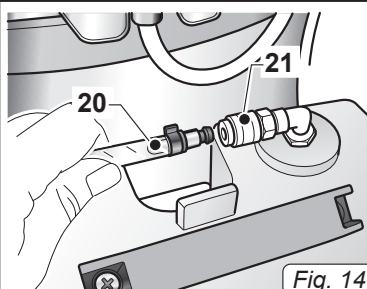

Fig. 14
- Connect the (20 Fig. 14) detergent suction hose to the quick coupling (21 Fig.14); to release it push the quick coupling (21 Fig.14) inwards.